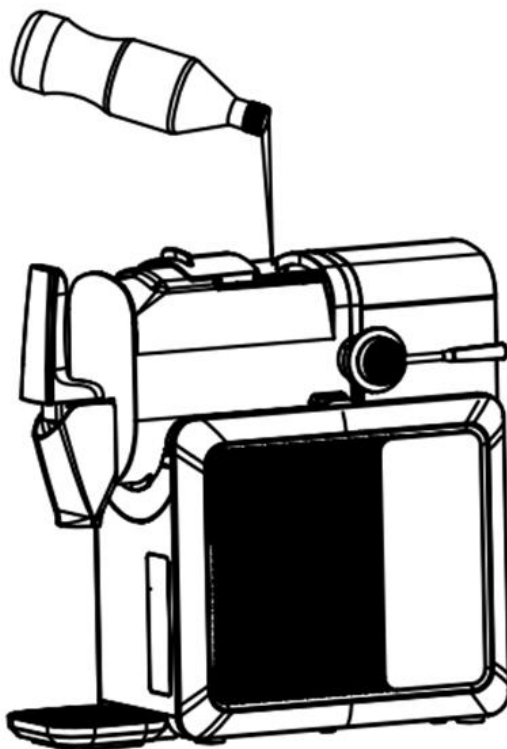
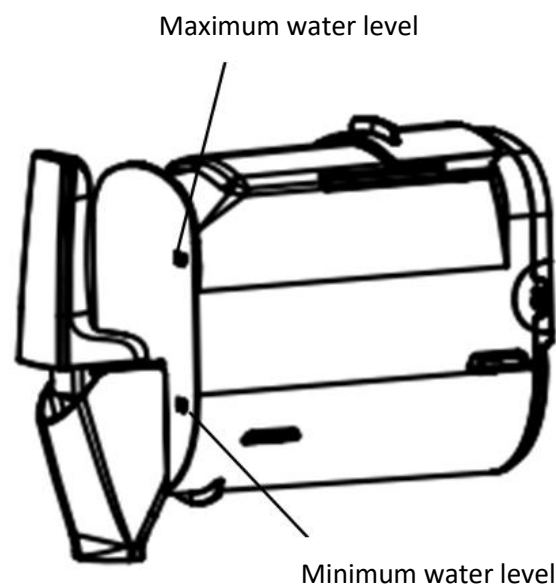

Figure 1
Figure 2
1. Check the ingredients tank before pouring the material into it to ensure that the ingredients tank is installed in place (see the “Cleaning and maintenance” chapter for the disassembly and assembly steps). Open the top cover of the tank, and then slowly pour the material into it (as shown in Figure 1); the liquid capacity should be between the Minimum and Max water levels (as shown in Figure 2).
- In order to avoid increased mixing load and overflow after the ingredients’ expansion, they should not exceed the maximum capacity water level. For accurate temperature control and normal operation, the ingredients needed to be added to the minimum capacity water level (see Figure 2). The appliance makes the best smoothies when it is loaded with the maximum capacity, so please try to make smoothies according to it.